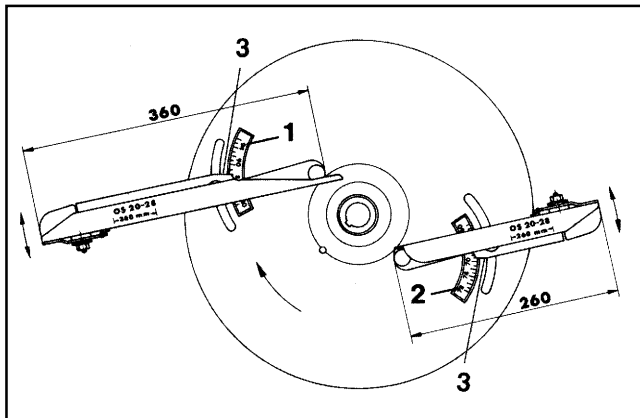

Fig. 7.12
The position of the spreading vanes (fig 7.12) on the OMNIA-SET spreading discs can be adjusted and the angle of the wings can be changed. If granular fertiliser is to be spread using OMNIA-SET spreading discs, the funnel chute must be fitted to optimize the drop point of the fertiliser on the spreading discs (see point 7.5).
- Set the reading edge (fig. 7.12/3) of the **short vane to "68"** on the scale (fig. 7.12/2).
- Set the reading edge (fig. 7.12/3) of the **long vane to "87"** on the scale (fig. 7.12/1).